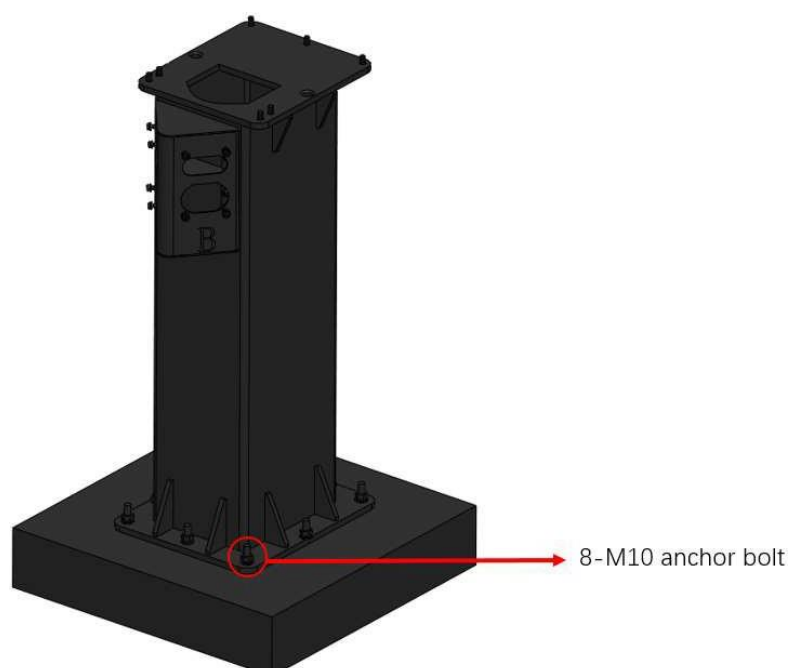

Figure 30 Installation drawing of pole
(1) Move the pole onto the foundation and fix it by 8 embedded anchor bolts of M10 on the foundation, as shown in Figure 30.